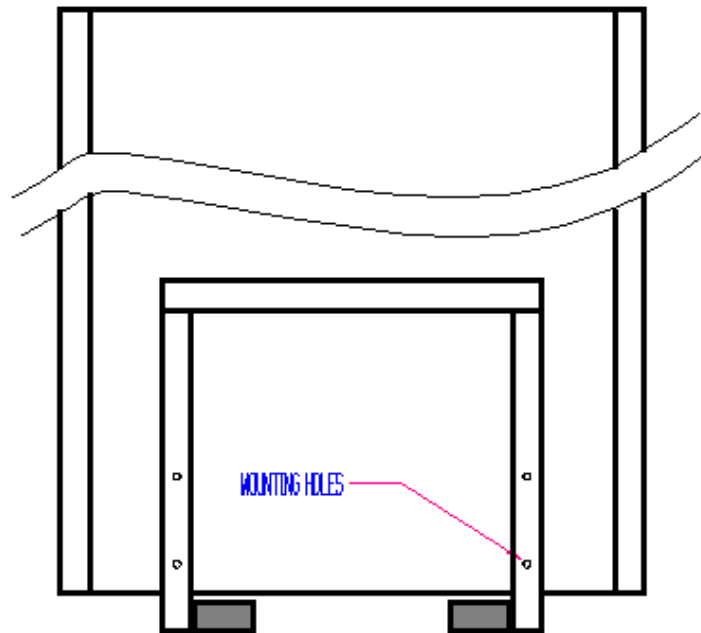

figure 3
3. Fasten the stand to the speaker at the points shown on *figure 3* using the 1/4-20 x 2 1/4 screws. Tighten snugly but do not over tighten as over tightening may damage the threaded inserts or screws.